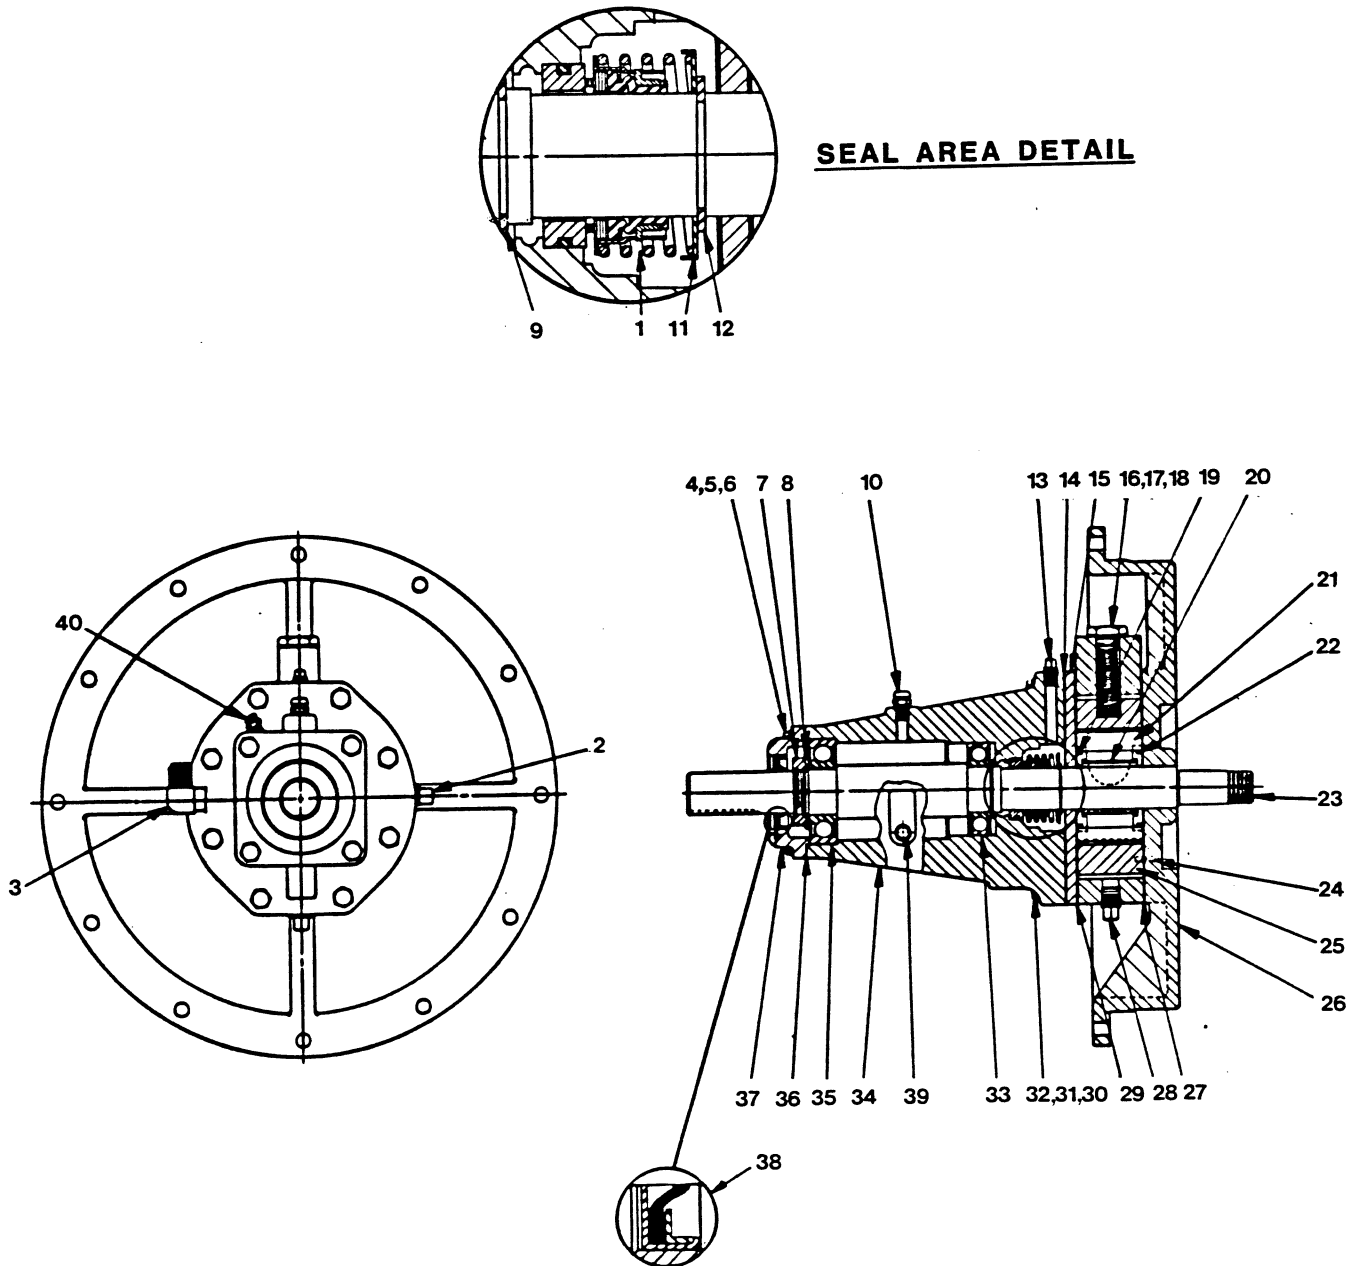

Figure 2. Bearing Housing Assembly R12051-10
Before attempting to service the pump, disconnect or lock out the power supply to prevent accidental start up. Close all valves in the suction and discharge piping and drain the pump casing and group grind by removing the drain plugs (24, Figure 1, and 28, Figure 2). Clean and reinstall the drain plugs.
Disconnect the priming tube assembly (5) from the bearing housing (34, Figure 2) and pump casing.
#### (Figure 2)